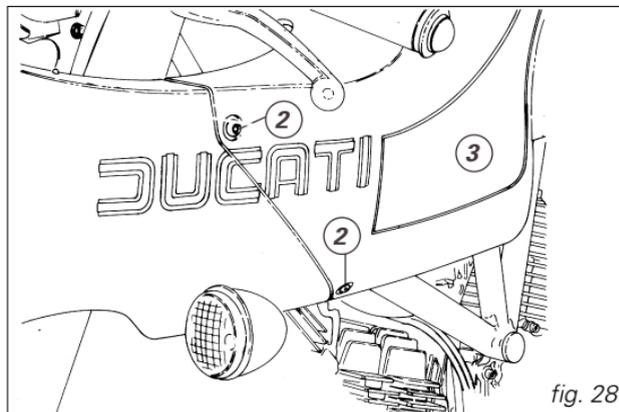

fig. 28
Unscrew the screws (2, fig. 28) (on both sides of the body) (3).